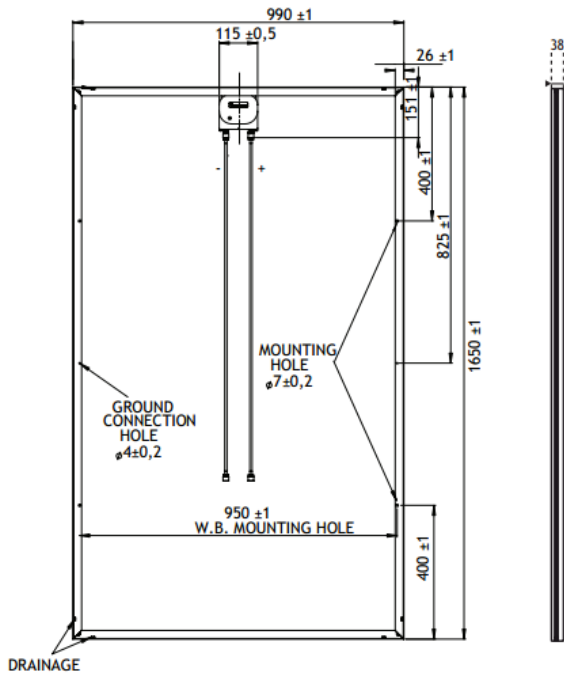

Fig. 3a: Mechanical drawing of the SLA/SSA module showing the mounting holes, the drainage holes, and the ground connection holes
- Only use the 4 pre-drilled mounting holes (slots, see Fig. 3a/3b) on the PV module frame to bolt the module with M6 (1/4”) stainless steel screws and nuts to the mounting framework.